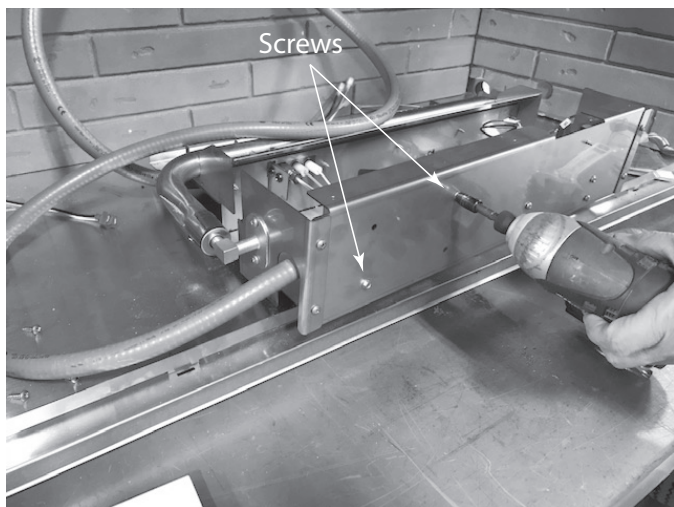

Figure 5.3 Burner Assembly
- Using 1/4 inch socket, remove (2) screws securing junction box to the rear of the burner assembly. See Figure 5.3.